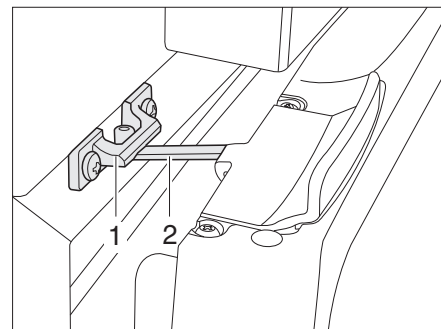

Fig. 333 Refrigerator door in ventilation position (Thetford)
- Open the lock (Fig. 333,2) and snap it into the locking catch (Fig. 333,1). The refrigerator door will then stay slightly open.